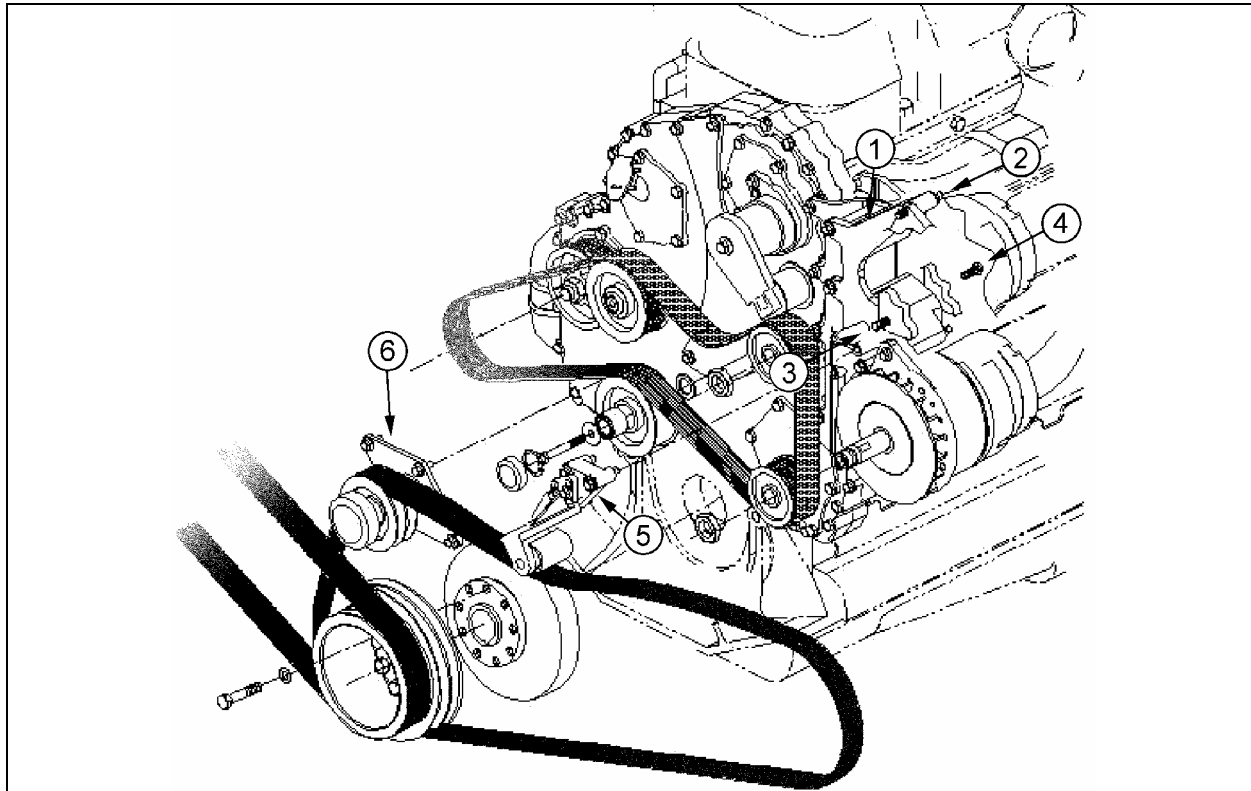
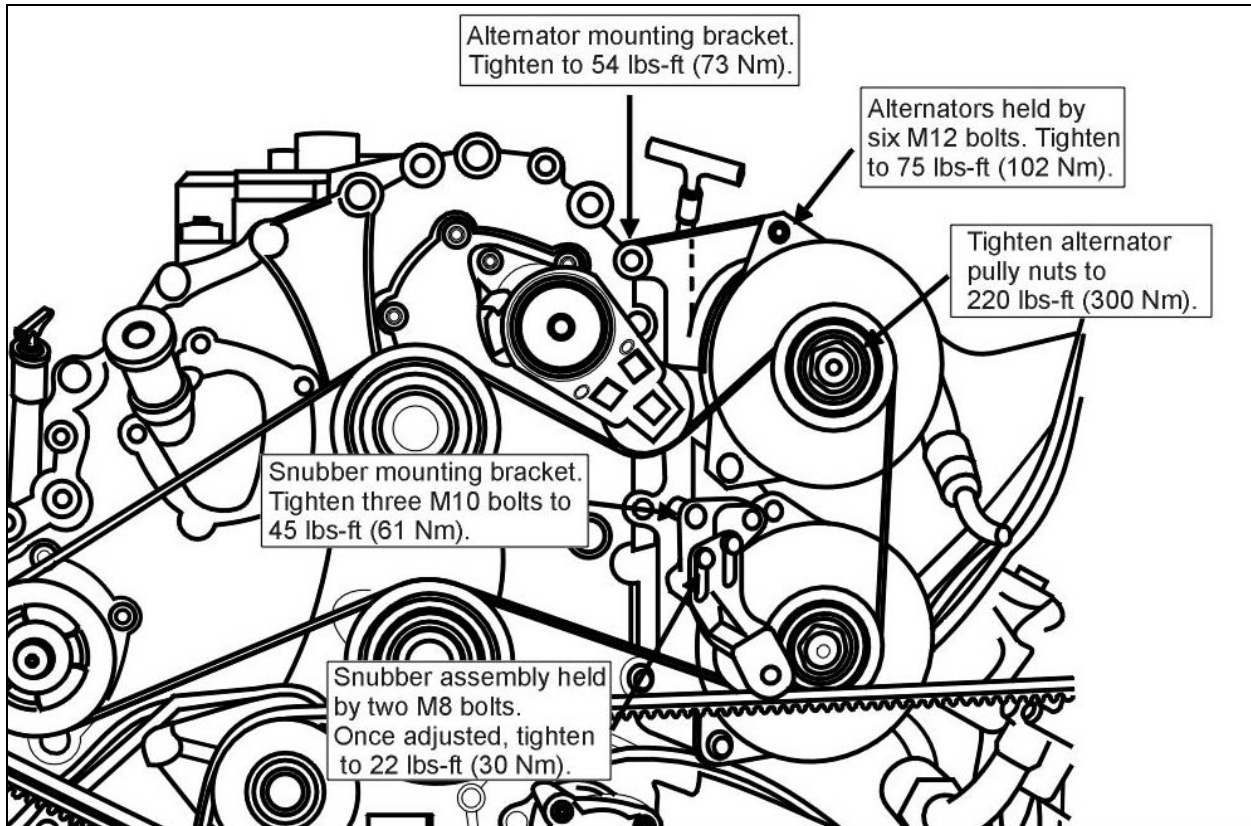

FIGURE 20: TWIN BOSCH ALTERNATORS INSTALLATION
FIGURE 21: ALTERNATORS AND ACCESSORIES MOUNTING TORQUES
If the alternators needed to be removed, reinstall as follows. Refer to figure 20 for installation and to figure 21 for tightening specifications:
1. Install alternator mounting bracket (1, figure 20) to the gear case. Use the four flanged phosphor alloy bolts on the pulley end of the bracket and the flanged nuts at the transmission end of the bracket;
2. Bolt the alternators to the bracket using the three inch bolt at the top of the upper alternator (2, fig 20) and flanged bolts at the other mounting bosses (3 and 4, figure 20). Tighten the bolts in the sliding sleeves (4, figure 20) last as they will adjust to prevent breaking the alternator mounting bosses upon final tightening. Repeat for the second alternator;
4. Install the snubber bracket (5, fig. 20) using three flanged bolts. Do not tighten the adjustment bolts on the snubber until after final tightening;
5. Install the compressor belt idler pulley (6, fig. 20) as shown. A stud inserts into one of the mounting holes of the pulley assembly. Fasten this one using a nut and bolts for the other two.